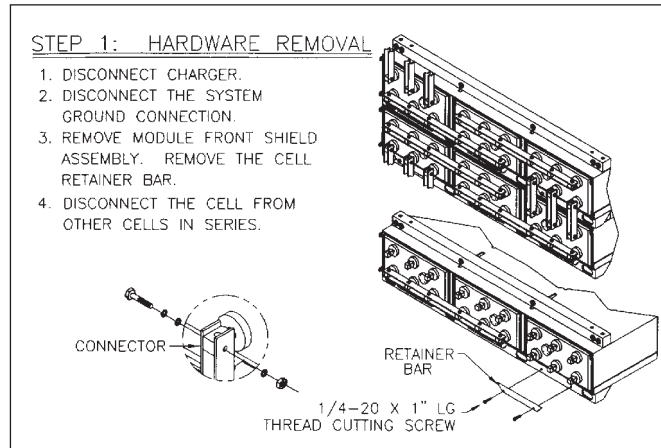

Fig. 8-1
2. Refer to Fig. 8-1 through 8-4 (pg. 8) for specific instructions.